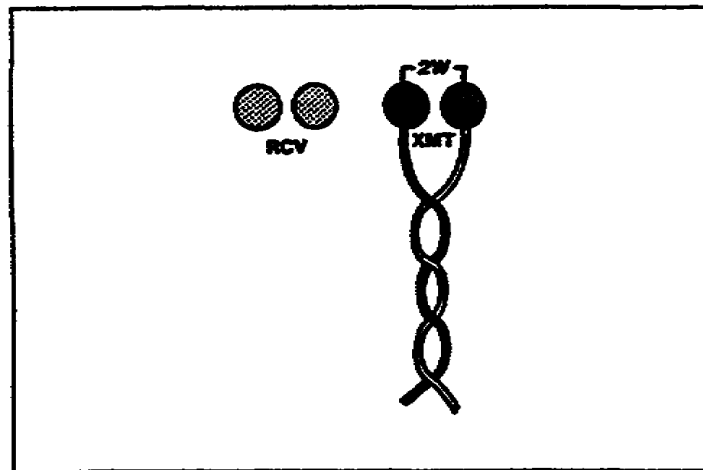

Figure 1-10. Two-wire identification.
e. For 2-wire operation, the send/receive pair of wires are connected to the XMIT binding posts. No wires are connected to the RCV binding posts. (See Figure 1-10.)